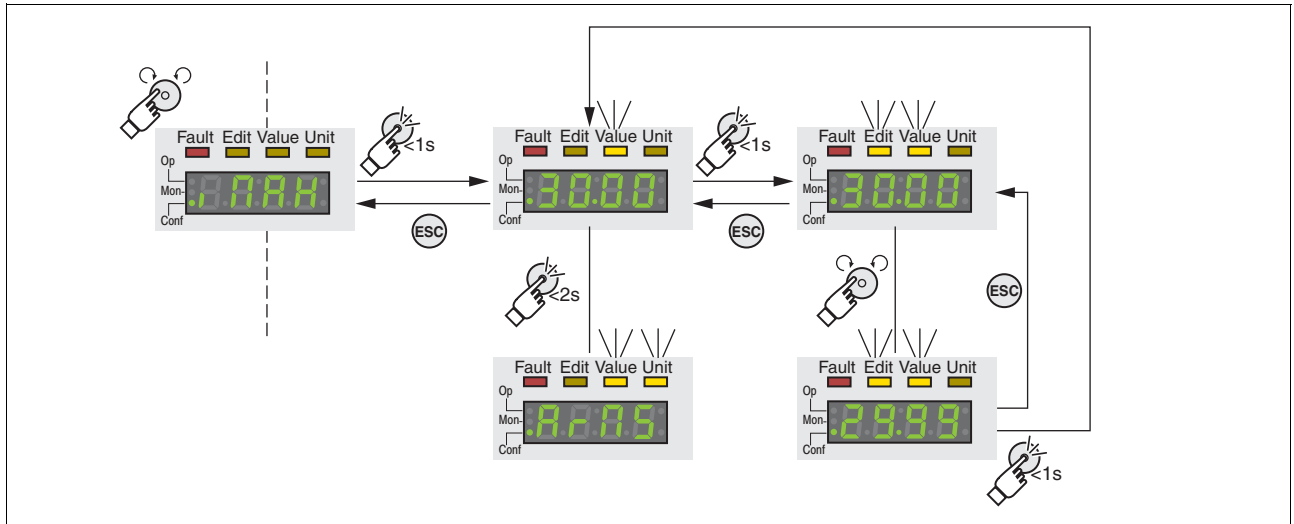

Figure 7.4 Integrated HMI, example of setting a parameter
- The parameter , *iMax* (iMax) is shown on the 7-segment display, see Figure 7.4.